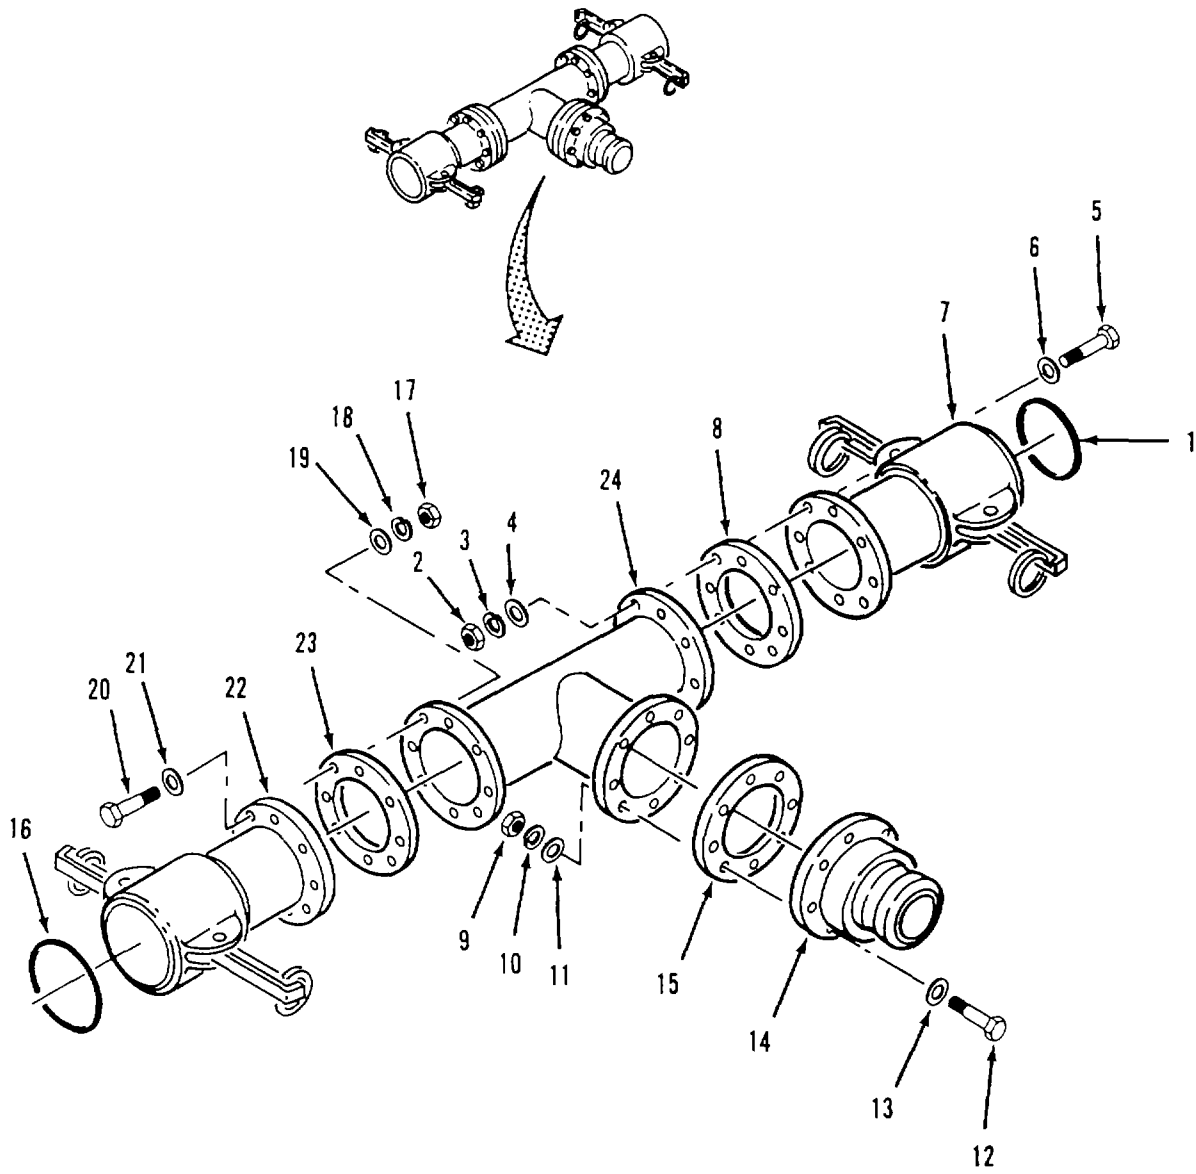

Figure 4-19. Tee Assembly (9112-Y1) Disassembly
a. Disassembly. Refer to figure 4-19.
(1) Remove gasket (1) from female coupling (7).
(2) Remove eight nuts (2), lockwashers (3), flat washers (4) screws (5) and flat washers (6).
(3) Separate female coupling (7) and gasket (8) from tee (24).
(4) Remove eight nuts (9), lockwashers (10), flat washers (11), screws (12) and flat washers (13).
(5) Separate male coupling (14) and gasket (15) from tee (24).
(6) Remove gasket (16) from female coupling (22).
(7) Remove eight nuts (17), lockwashers (18), flat washers (19) screws (20) and flat washers (21).